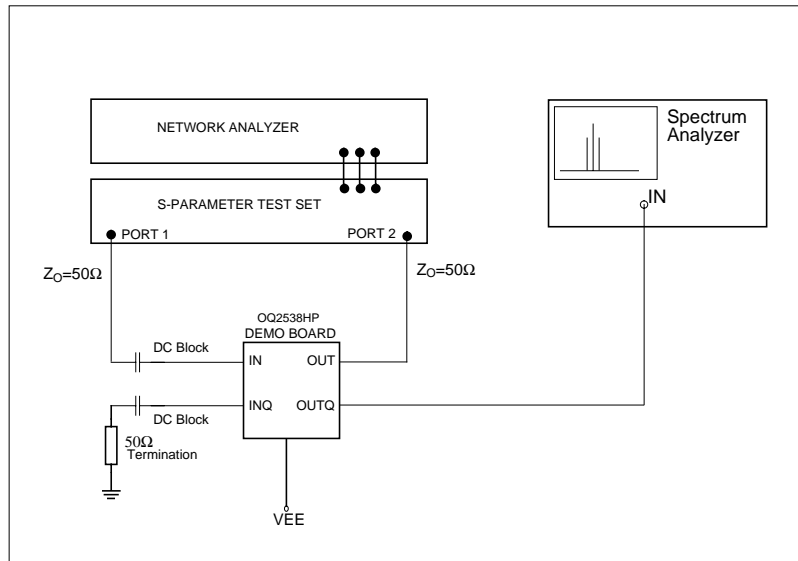

Fig 1. Functional test set up: frequency response and noise figure
**Linear (Small Signal) Gain:** To verify gain and bandwidth, measure the *forward transmission S21* with a 2-port vector network analyser as shown in figure 1. The input power level of the analyser should be set to -50 dBm. Make sure, that the network analyser is calibrated for this power level. The S21 should be around 40dB with a bandwidth of about 3 GHz.